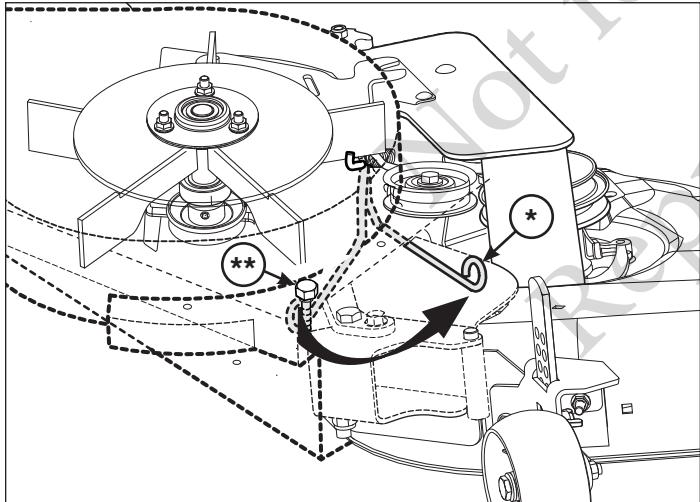

Figure 22
2. Release tension belt lever (*, Figure 22) from bolt (**).